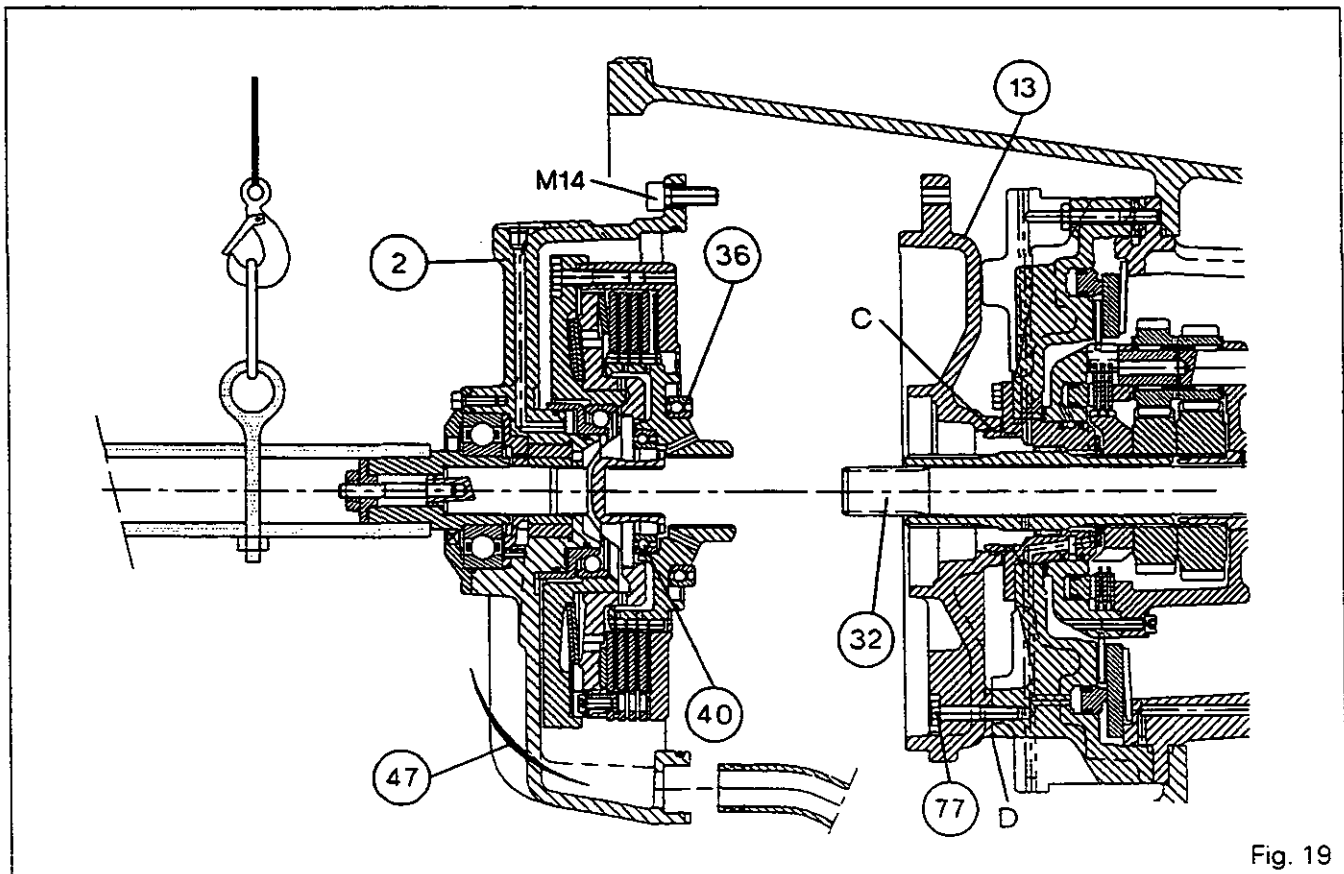

Fig. 19
G. Speedshift version (Fig. 19)